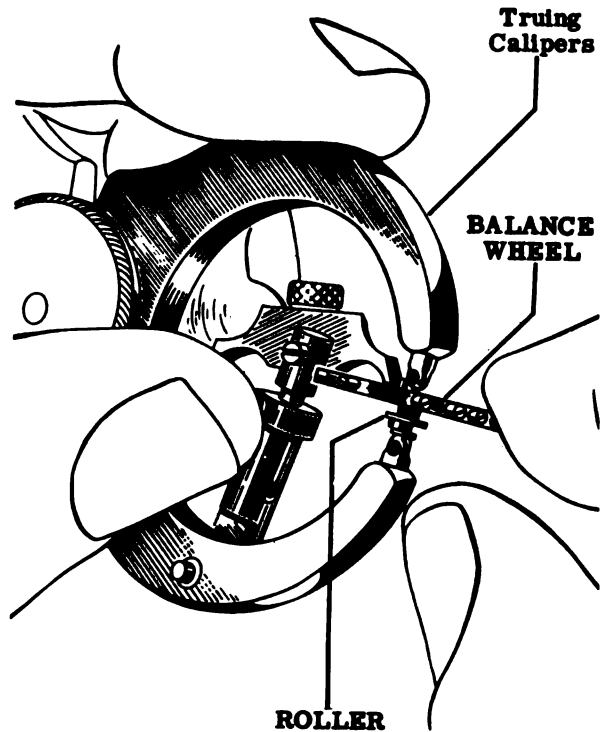

Figure 81
17. Using a truing caliper, as shown in Fig. 81, check to see that the balance wheel is true in the flat, and true in the round. This means that: